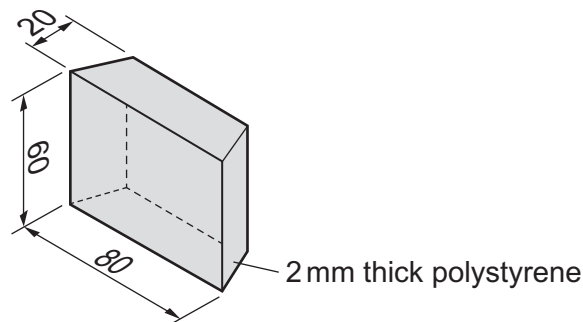

Fig. 13.7
- (e) Fig. 13.7 shows details of one of the cups. The cups will be vacuum formed.